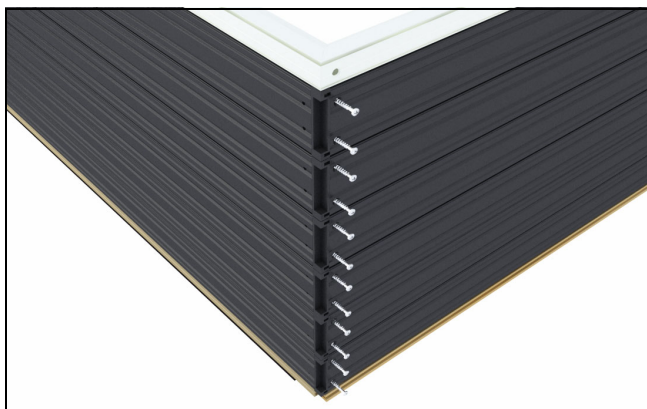

Figure 75
3. Fasten head jamb to side jamb using #8 x 1 1/4" pan head screws. See figure 75. Do not install screw into frame cladding miter at this time. *Note: If unit is prepped for motorization, use two #8 x 3/8" pan head screws on interior track.*